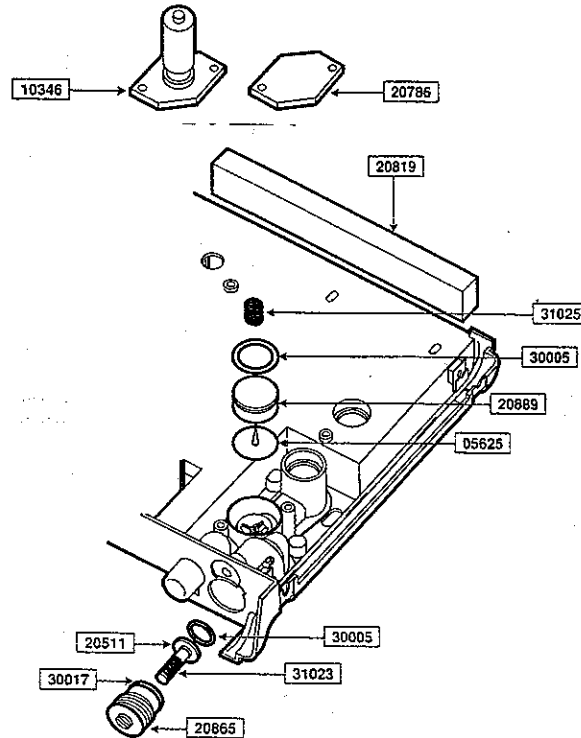

Figure 5-20. Outlet Check Valve Assembly and Relief Valve Assembly
- b) Referring to Figure 5-20, remove the cover plate (P/N 20786) using a short Phillips screwdriver and withdraw the components.
- c) Referring to Figure 5-20, back out the Relief Valve Adjuster (P/N 20865) and remove it and its components from the ventilator